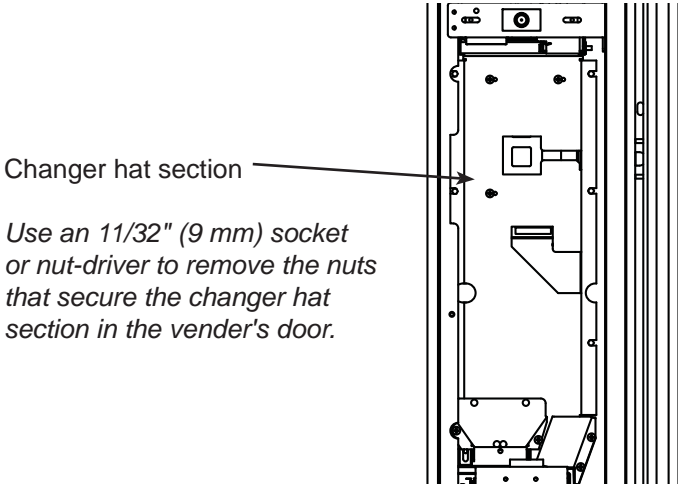

Figure 2.
6. If the original coin cup threadstuds are still secured in the vender's door, remove them. (Refer to Figure 2.)